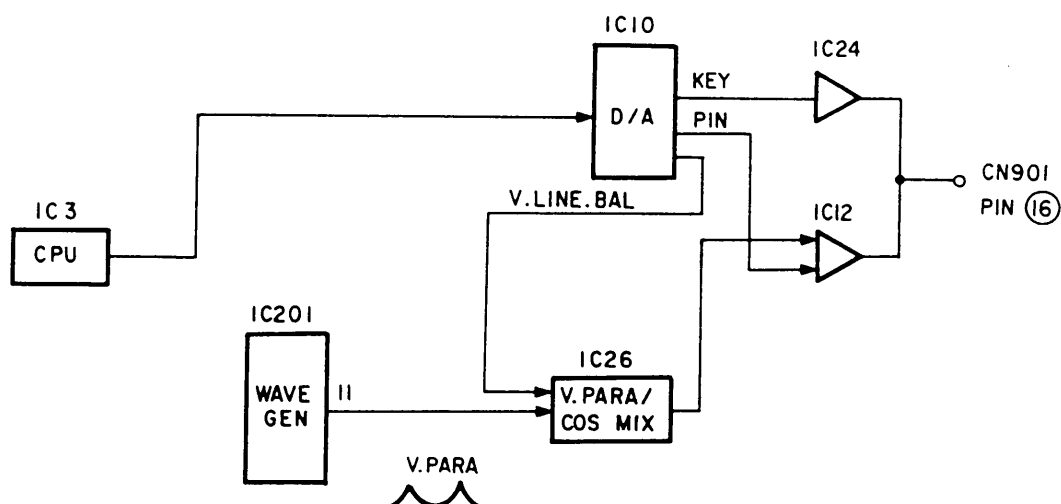

Fig. 3-14 PIN correction block
The parabola wave of pin correction is output to pin ⑮ of connector CN901. This waveform includes the key correction waveform. And the V. lin and V. lin bal correction waveforms are added to compensate the pin distortion by the V. lin adjustment. The block diagram of pin correction waveform circuit is as shown in Fig. 3-14.